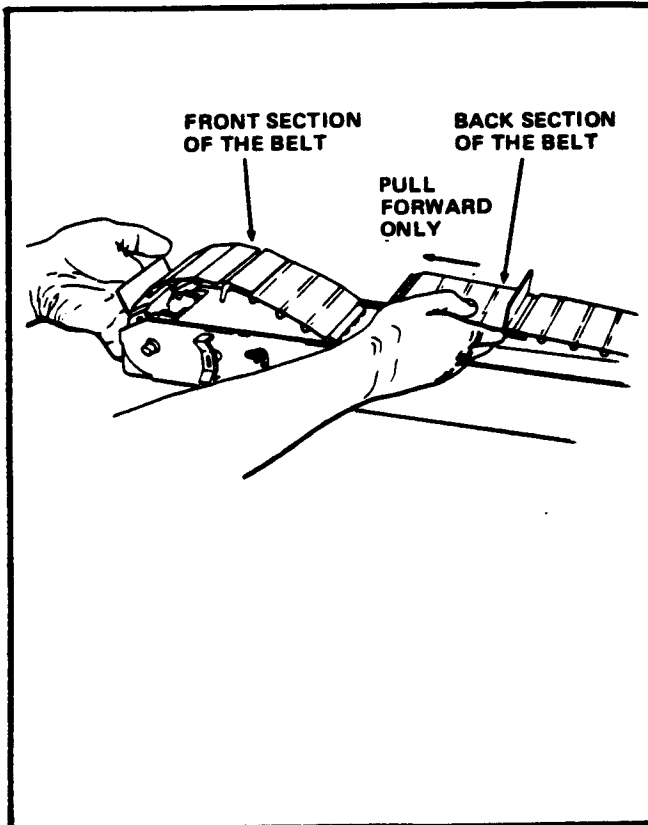

FIGURE 6
17. Place the palm of your hand on the front section of the Belt as shown in Figure 6 to guide the Belt through the Module, and pull forward on the back section of the Belt to remove it from the Module.